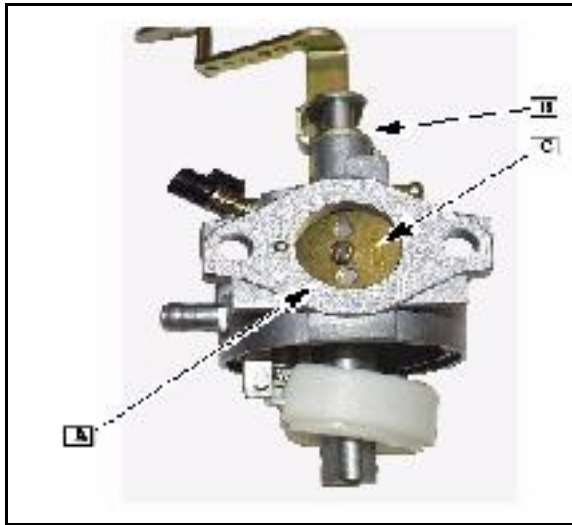

Fig. 37
3. Place the throttle plate (A) on the throttle shaft (B) with the stamped numbers ([C] Fig. 37) to the right. Install screw with washer.